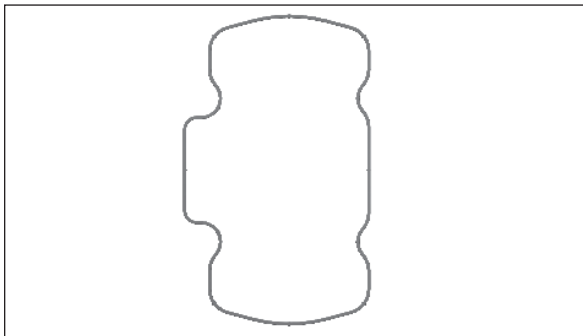
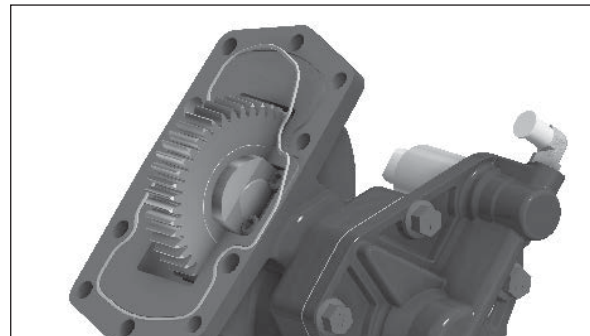

Figure 11
Figure 12
3. Remove the O-ring mounting seal from the PTO installation kit and align it with the groove on the PTO flange. Press firmly along the length of the seal until the seal is firmly seated in the groove. O-ring lubrication compound may assist the installation of the seal into the housing (**Fig. 11 and Fig. 12**).